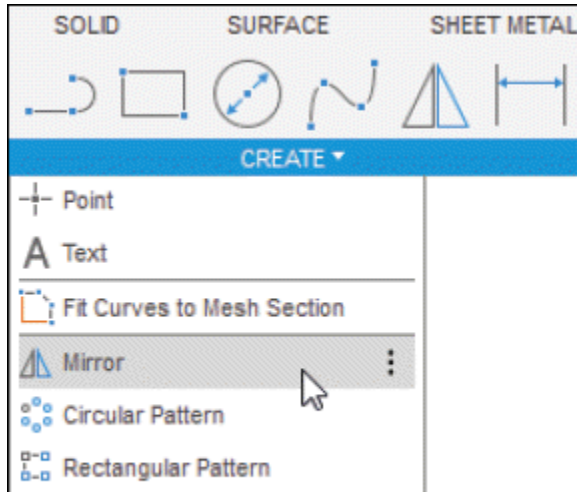
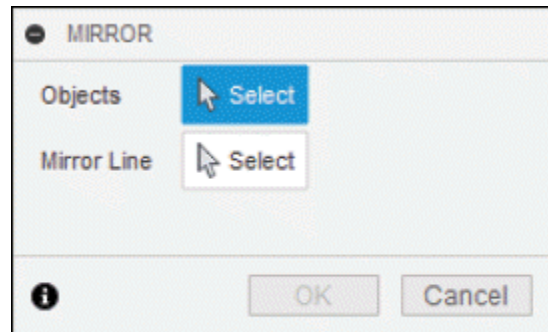

Figure-52. Mirror tool
Figure-53. MIRROR dialog box
- Click on **Mirror** tool of **CREATE** drop-down from **Toolbar**; refer to Figure-52. The **MIRROR** dialog box will be displayed; refer to Figure-53.